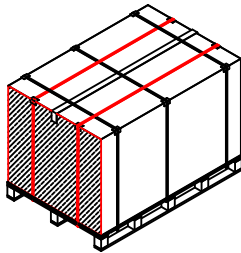

Figure 1
1. 剪断短边的两根打包带，并沿纸箱棱线割开箱体一侧短边，如图1。注意不要划伤组件。
Cut the two longitudinal security straps, then carefully cut and remove the cardboard of one short side of the box, as showed in Figure 1. Pay attention to not damage the modules during the cutting process.